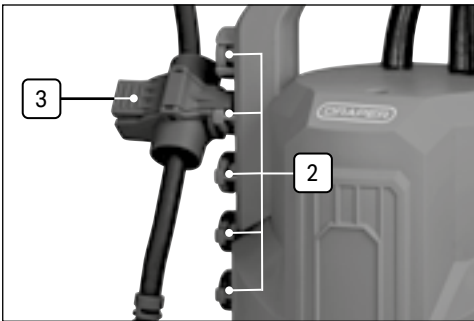
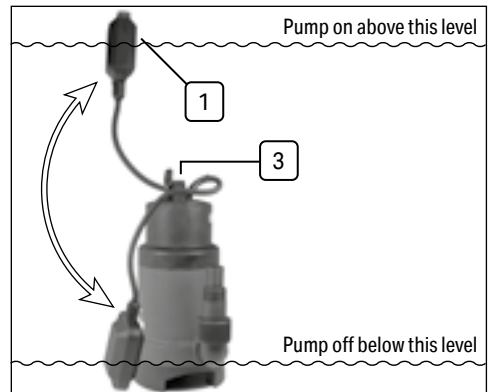

Fig. 7
Fig. 9
6.4 Positioning the Float Switch (Fig.7 – Fig.9)